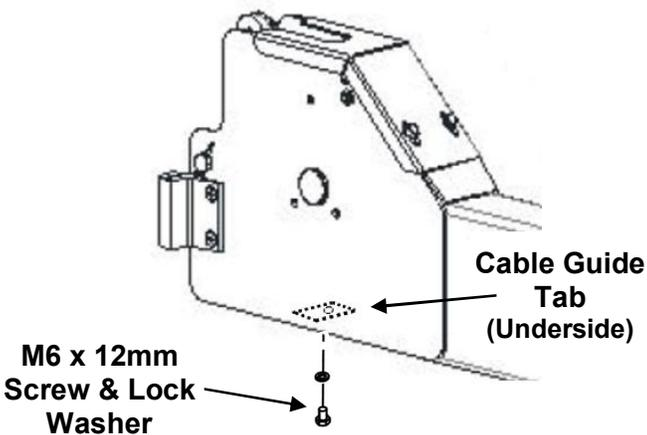

Fig. 16
- 8) Re-install Cable Guide Tabs to the underside of each end of Crossbeam, using the **M6 x 12mm Screw & Lock Washer**, shown below in **Fig. 16**.